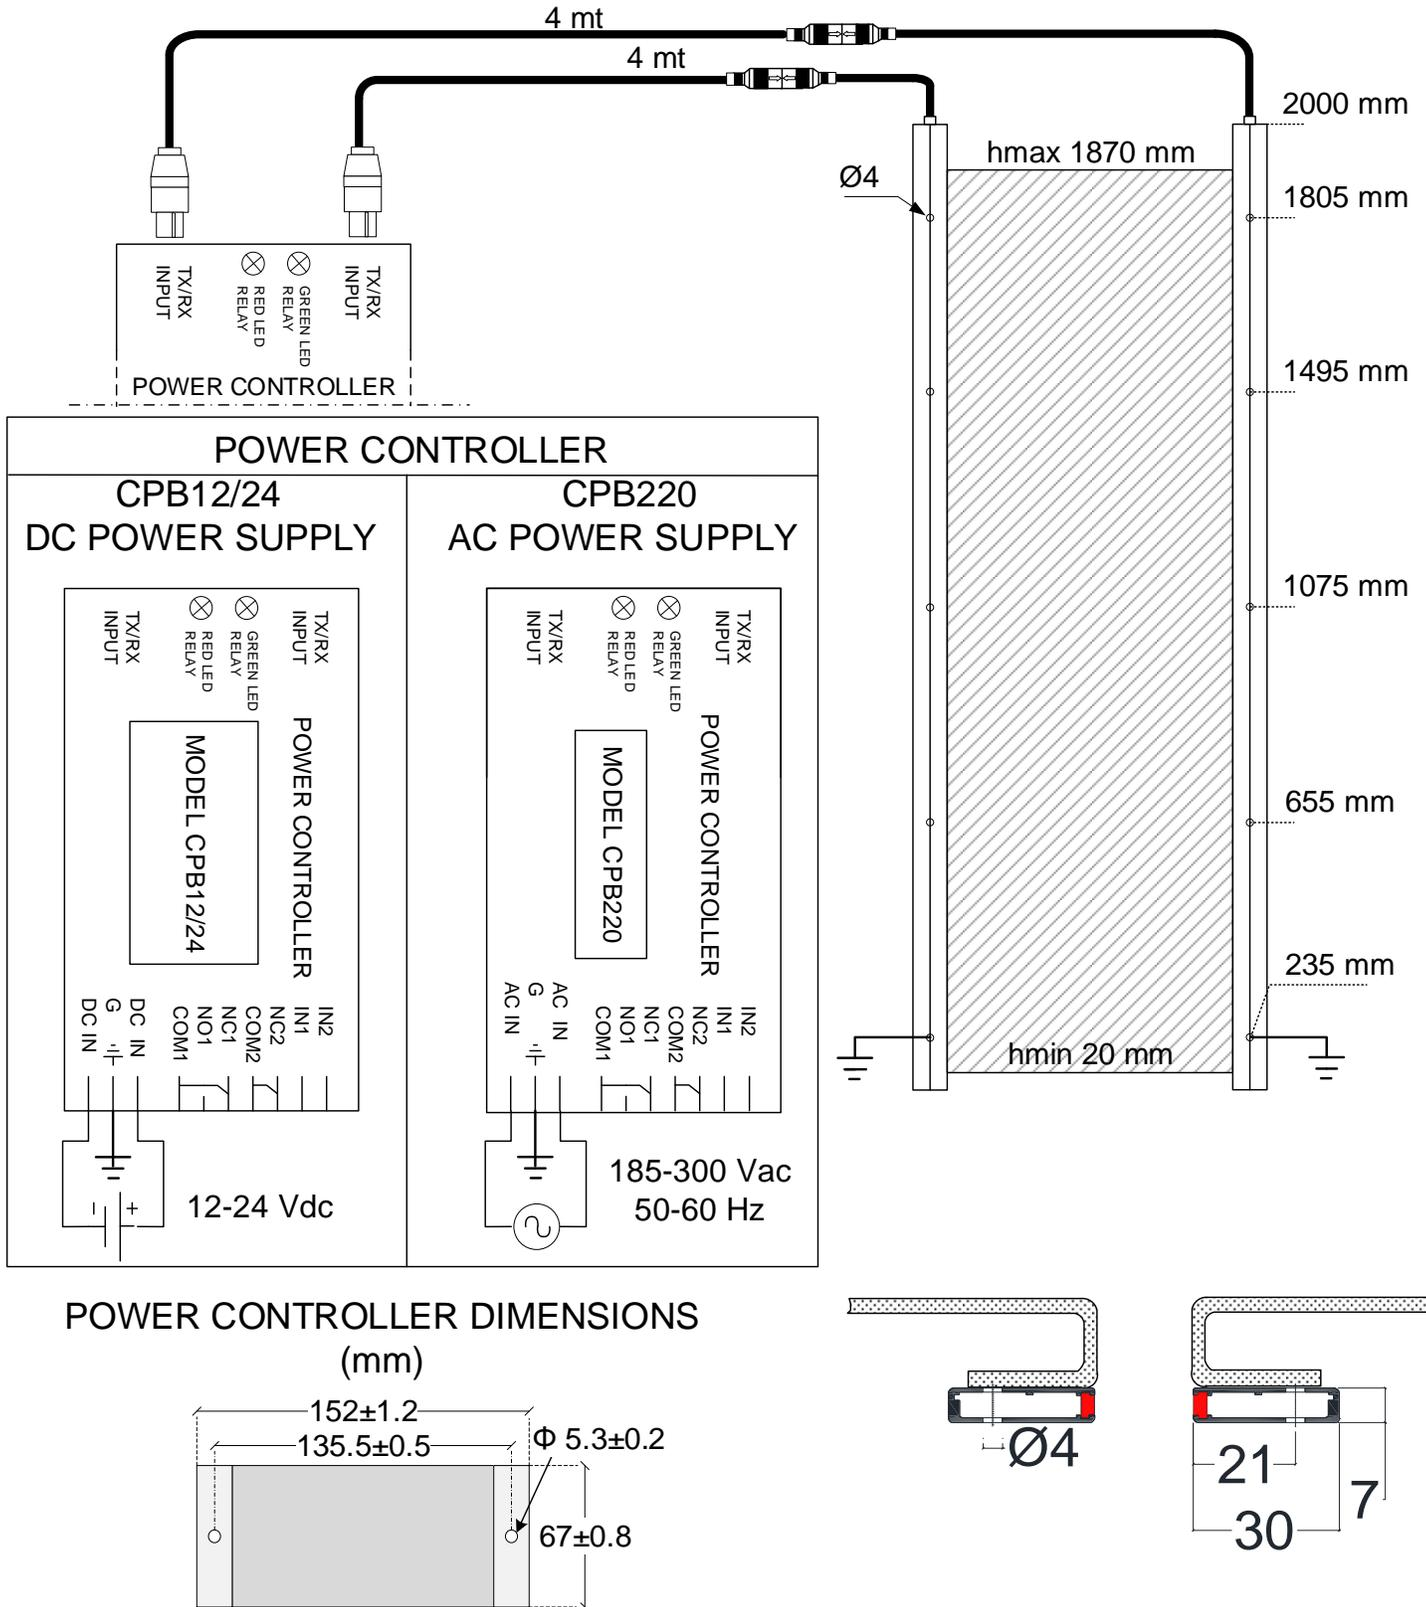

Fig.1 [IT] Montaggio e collegamento / [EN] Mounting and connection / [FR] Installation et branchement
5. Collegare i cavi RX e TX della barriera come mostrato in Fig.1;
8. Collegare la tensione di alimentazione opportuna: vedi Fig.1.
5. Connect Rx and TX cables as shown in Fig.1;
8. Connect the appropriate power supply: see Fig.1;
5. Brancher les cable comme en Fig.1 ;
8. Branchez la tension d'alimentation appropriée. Voir Fig.1